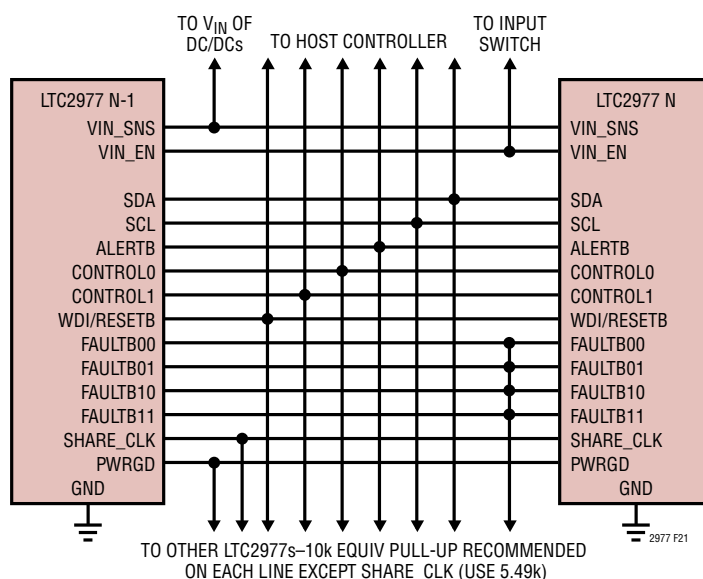

Figure 21. Typical Connections Between Multiple LTC2977s
Figure 21 shows how to interconnect the pins in a typical multi-LTC2977 array.
- The FAULTB zn lines can be connected together to create fault dependencies. Figure 21 shows a configuration where a fault on any FAULTB zn will pull all others low. This is useful for arrays where it is desired to abort a start-up sequence in the event any channel does not come up (see Figure 22).
- PWRGD reflects the status of the outputs that are mapped to it by the MFR_PWRGD_EN command. Figure 21 shows all the PWRGD pins connected together, but any combination may be used.